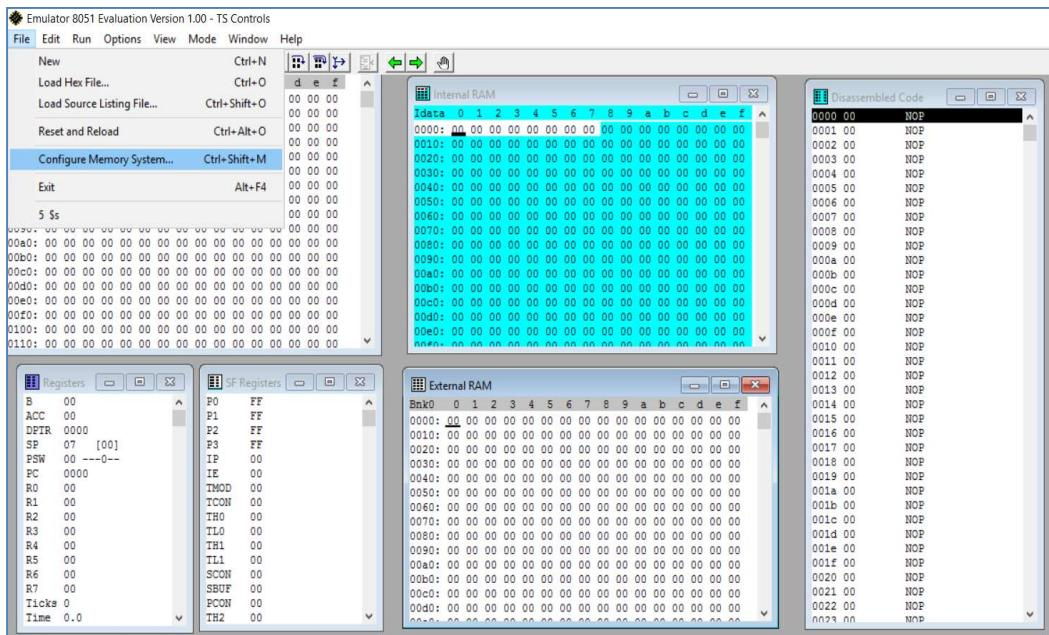

Figure 3.10: Configuring memory system in Emulator 8051 Evaluation
- e. Now click file and then go to configure memory system as shown below in Figure 3.10.